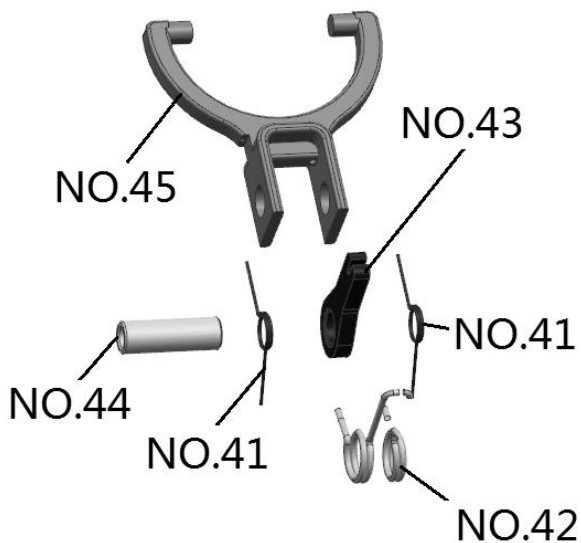

Fig 13
14.Inspect the shift lever (NO.43), shift level spring (NO.42), shift return spring (NO.41), shift yoke(NO.45), and lock shift bar (NO.44), Inspect the components for excessive wear or damage and replace as needed. →Fig 13
4.If previously removed; assembly the shaft lever, shift lever spring, shift return springs, shift yoke, and lock pin bushing. →Fig 13